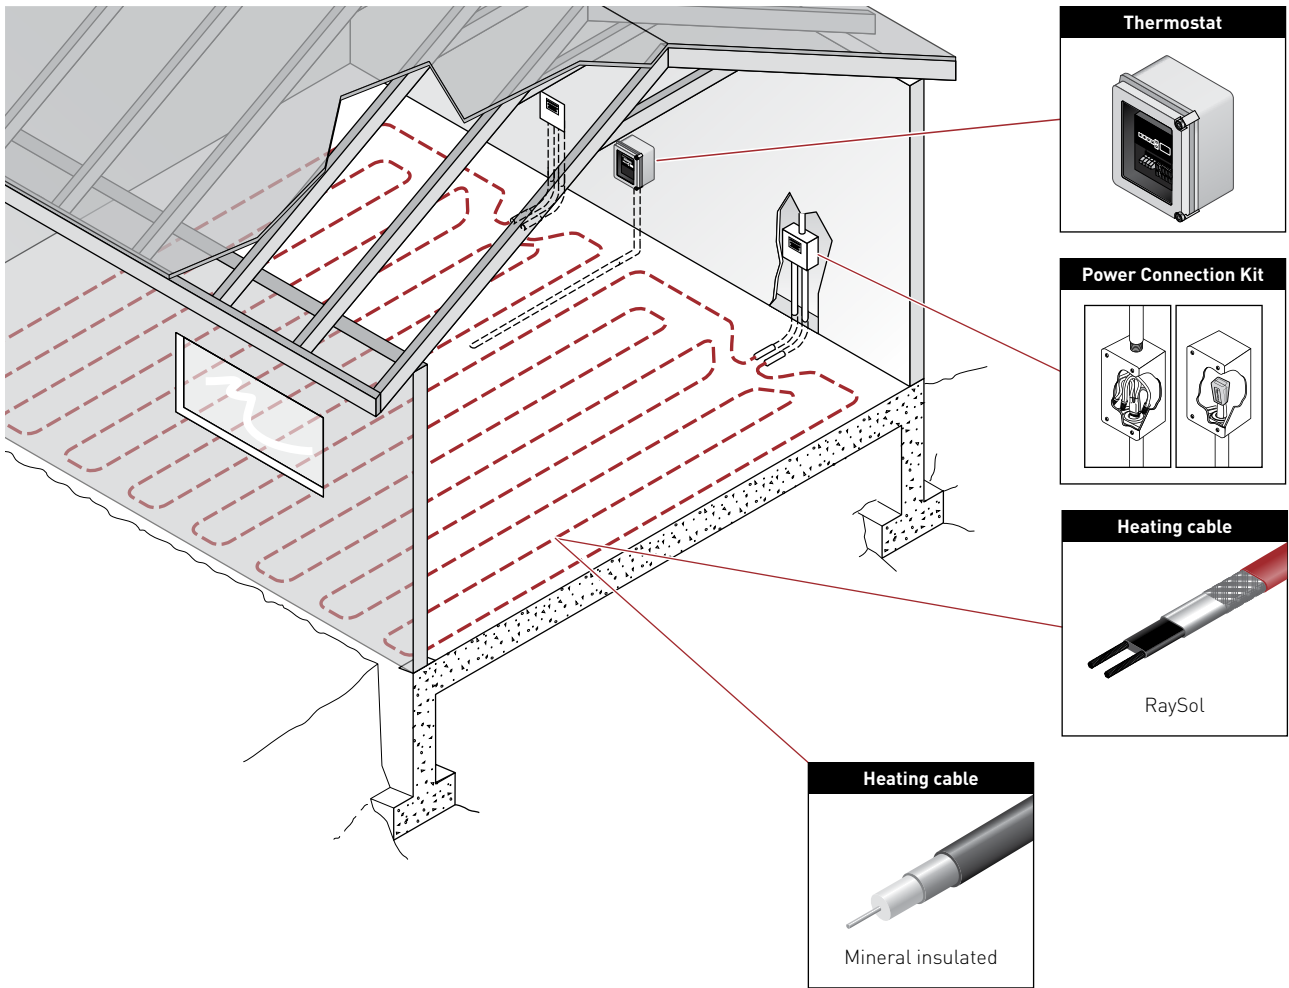

Fig. 3 Typical comfort floor heating system
A radiant space heating system is similar to the illustration in Fig. 3. RaySol heating cable systems must be custom designed through Pentair Thermal Management. Contact your Pentair Thermal Management representative or call Pentair Thermal Management at (800) 545-6258 for design assistance.